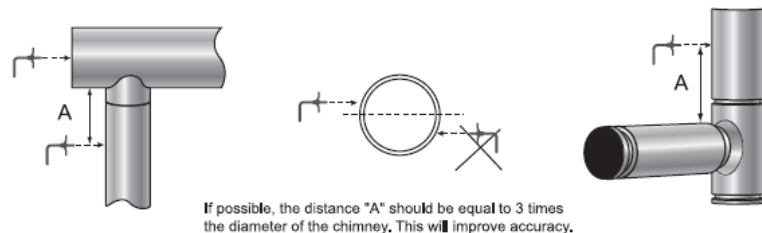

FIGURE 34
10. The **Figure 34** shows the location of the probe for the PDS. Location is important to make sure there is enough pressure or draft available or the switch to work. PDS location to be at 3' from last elbow before termination of vent system.